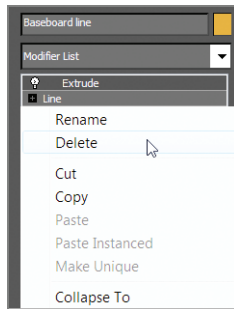

FIGURE 3.20
4. In the Modify panel, remove the Extrude modifier by right-clicking the modifier in the modifier stack and choosing Delete when the pop-up menu appears, as shown in Figure 3.20.